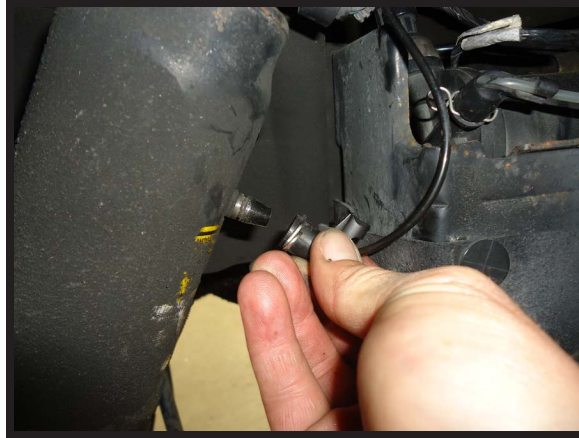

FIGURE 2
3. LOCATE AND REMOVE THE AIR LINE TO DEFLATE THE AIR SHOCK. TURN THE METAL CLIP APPROX. 90° TO REMOVE THE AIR LINE FITTING FROM THE AIR SHOCK. (FIGURE 2)